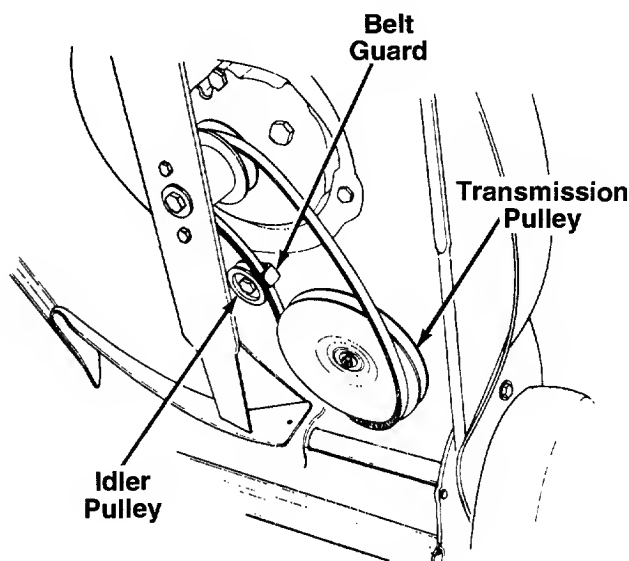

FIGURE 13.
5. Roll the belt off the transmission pulley. Remove the belt from between the idler pulley and belt guard. See figure 13.